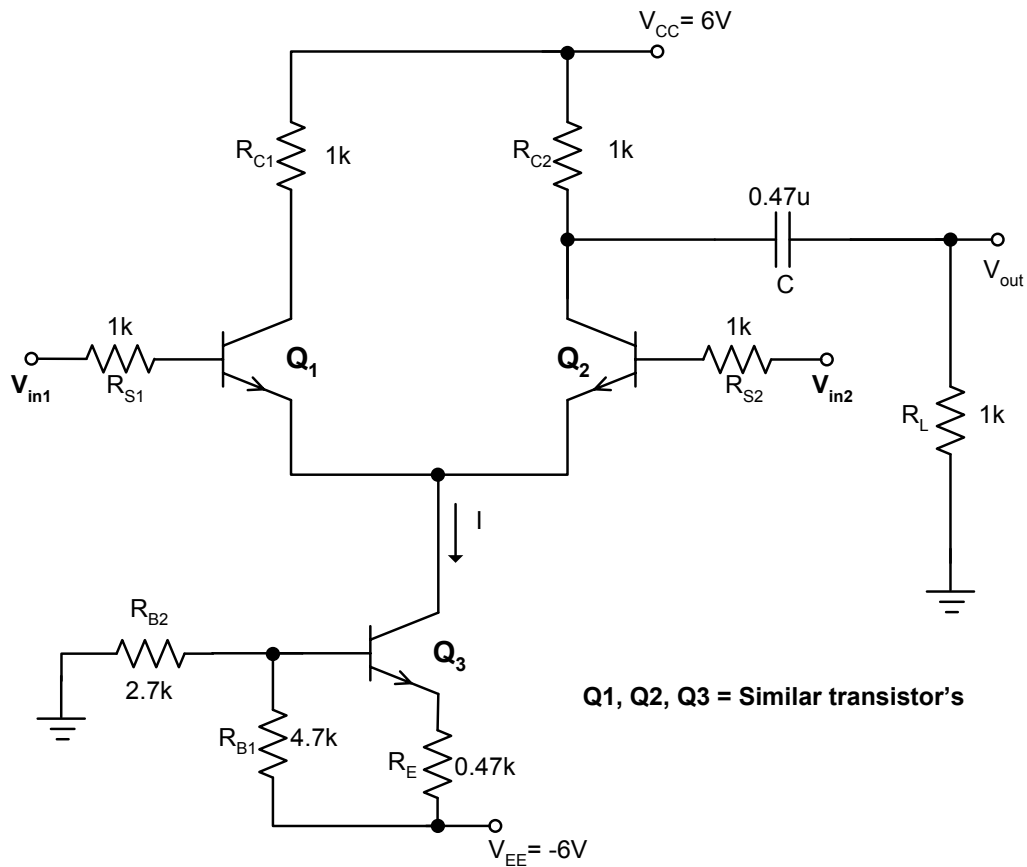

Figure 1 Differential Amplifier
1. **DC analysis:** Connect the differential amplifier circuit shown in Figure 1. With both inputs grounded (why?), measure the DC voltage at all possible nodes and the DC currents in all branches. Specifically I , V_{BE2} , V_{CE2} , V_{CE3} and I_{C2} . Compare all DC results to your prelab calculations.
3. With both inputs joined to each other repeat step (2). Now you are measuring the common mode gain. Compare the value you obtain with the corresponding theoretical value. (The common mode gain is the gain acquired by the sum of the two inputs. As you know from your lectures the output of the differential amplifier can be expressed as: $v_o = G_d(v_1 - v_2) + G_c(v_1 + v_2)$, thus when $v_1 = v_2$ the output voltage will be due only to the sum of the two inputs and gain will be the common mode gain).